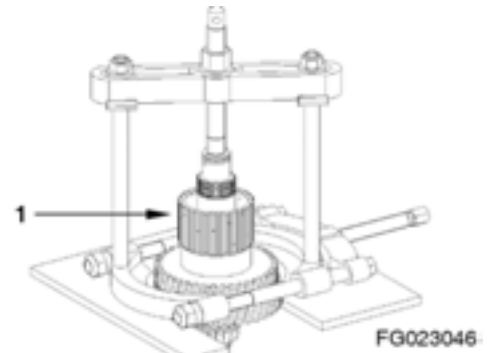

Figure 117
- Remove idler gear (1, Figure 117) using cut-off device and pull it off the clutch shaft.